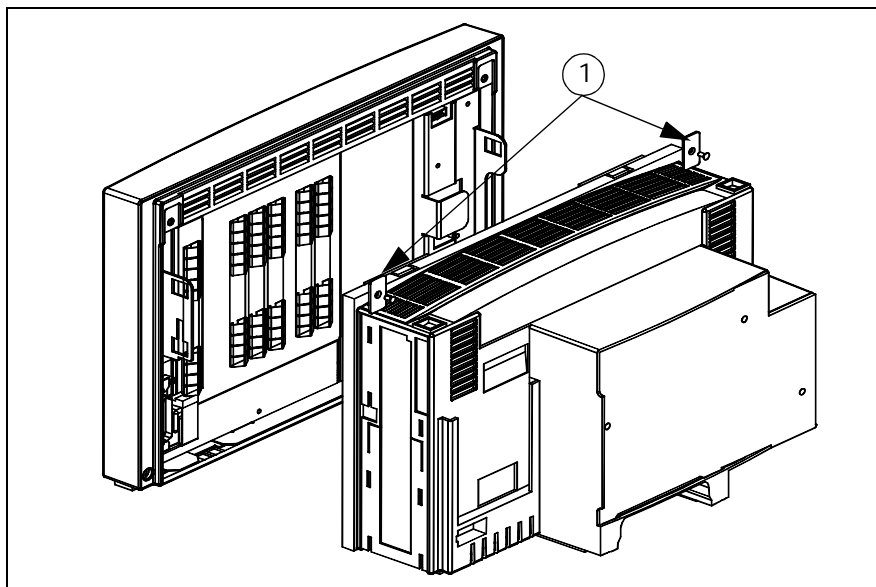

Figure 3-7 Locking Plates for Front Bezel Subassembly
After left and right side panels have been removed, opening the monitor consists of separating the front bezel and rear housing subassemblies. The subassemblies are secured to each other by two locking tabs on the rear housing at the bottom of the front bezel and two locking plates that secure the top of the bezel to the rear housing (see Figure 3-7).
- 2 Remove and save two screws and locking plates (see ① in Figure 3-7) that secure top of Front Bezel Subassembly to rear housing.